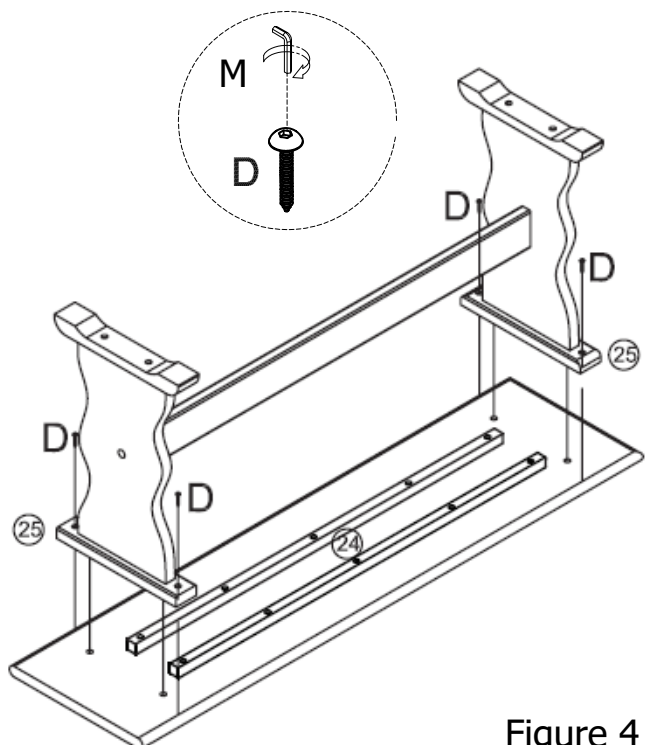

Figure 4
- Lay bench Seat (24) bottom-side up as shown on a material that does not scratch the part.
- Attach Seat Top Support (25) on the leg assembly completed in STEP 3 to bottom-side of (24) via wood dowels on (25) as shown in Figure 4.
- Use Screw (D) to fasten (25) to (24).